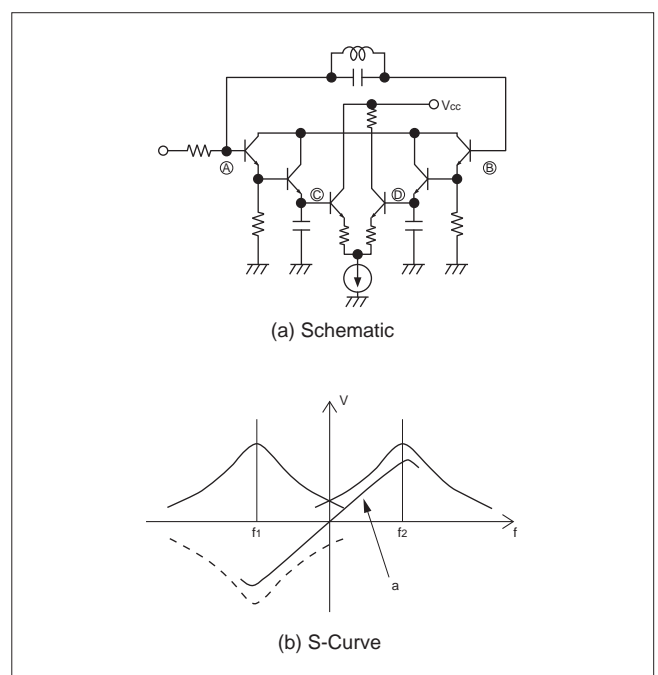

Fig. 5-3 Differential Peak Detector
- (1) Can output large level.
- (2) Can function with only 1 synchronous coil.
- The principle is shown in Fig. 5-3. The circuit resonates f_1 at point B and f_2 at point A due to own impedance change.
Non-linearities of synchronous characteristics are compensated each other by applying rectified intermediate frequency voltage. As the results, linearity like line "a" shown in Fig. 5-3 can be obtained.